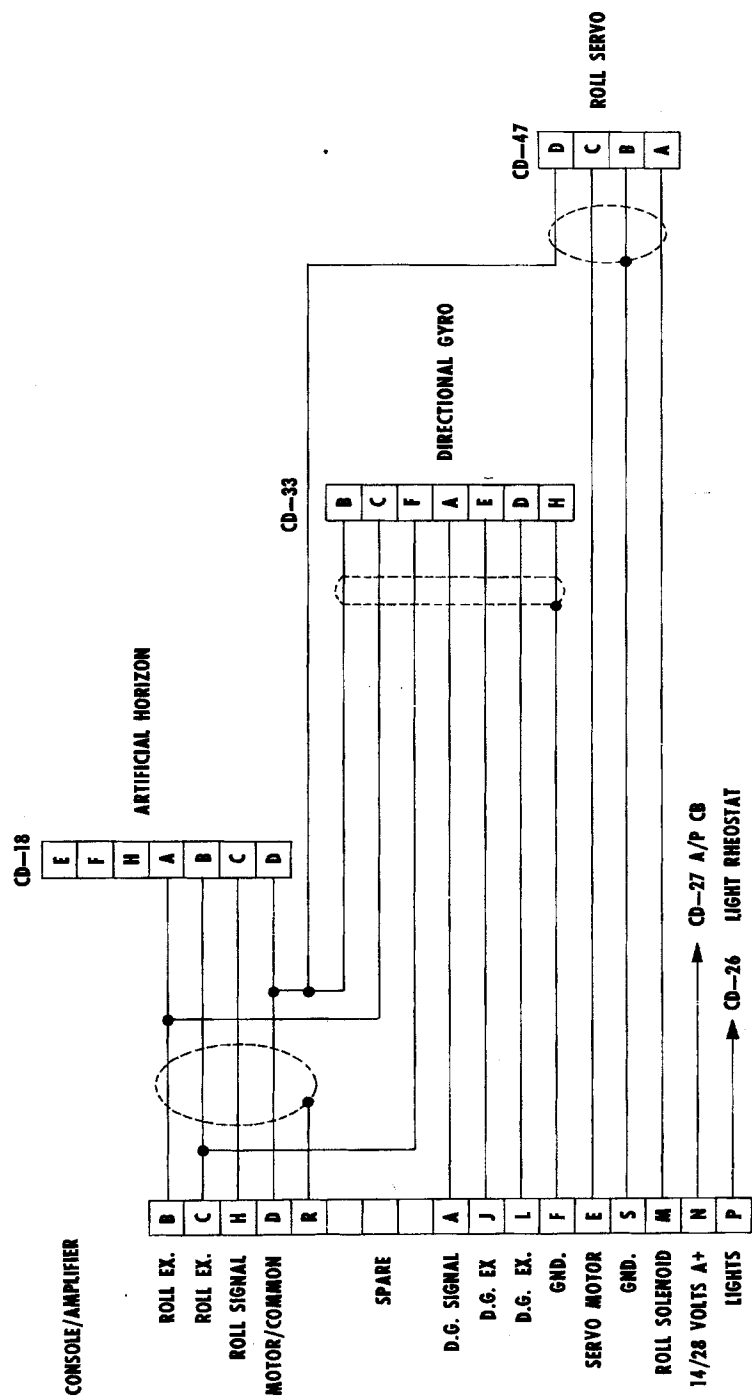

FIGURE 3-3
NOTE: When wiring checks are called for, see Fig. 3-3 for system inter-connect diagram.
4. The Solenoid lamp on the 66D141-2 Power Section should light. If not, check continuity from pin "A" on male CD-47 plug to pin "M" on the main connector to the Console Amplifier. If OK, defective Console Amplifier. See Fig. 3-3 for wiring diagram.
3. Check pins A, B, C and D of CD-18 to pins B, C, H and D respectively on the Console Amplifier plug for continuity. See Fig. 3-3 for wiring diagram.
6. Rotate the gyro substitute vernier to 15° left (LT). The control wheel will instantly start moving to the left. Rotate the Roll Command Knob to the left to stop wheel movement. Repeat to the right.